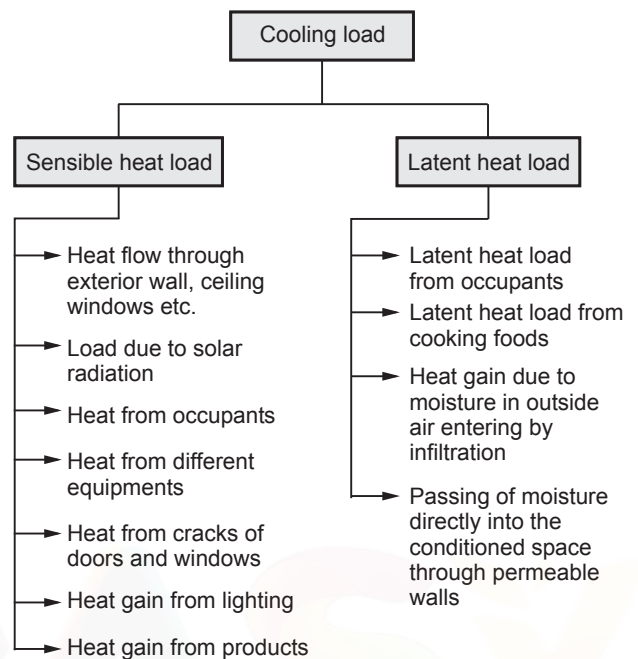

**Fig. 5.93 : Year - round air conditioner**
- The schematic arrangement of year - round air conditioning system is shown in Fig. 5.93.